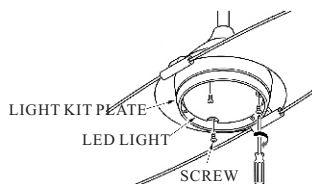

FIG.16
5. Tighten the light kit by using the 3 screws removed in step 3 (see Fig. 16)